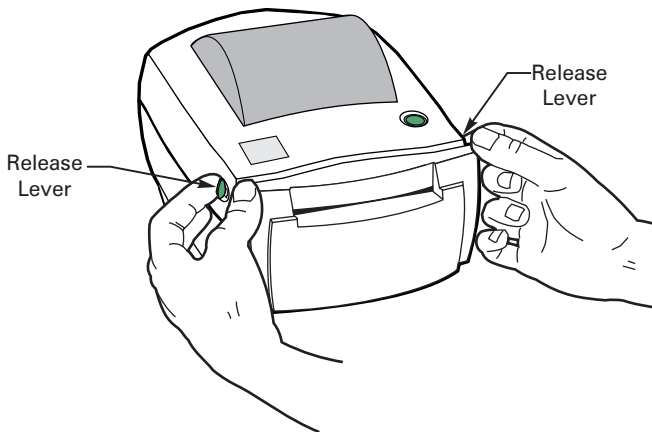

Figure 14
1. Unlatch the top cover by pulling the two green release levers toward you (refer to Figure 14). Then, lift the top cover to expose the media compartment.